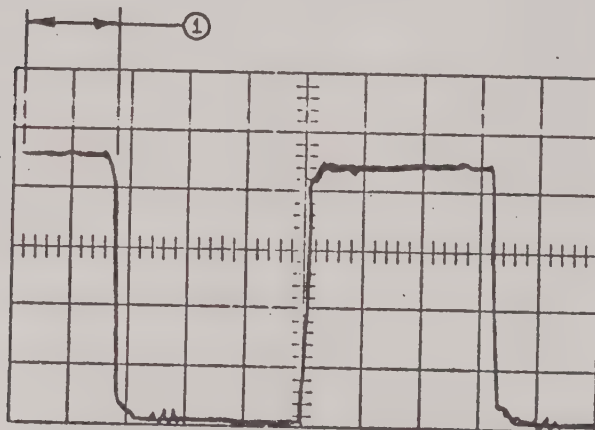

Figure 5-14: Transmit Bit Sync
- o. Adjust the Oscilloscope's triggering controls to obtain the waveform of Figure 5-14. When properly triggered, the Oscilloscope should exhibit a slight delay (not more than 2/3 second) between release of its Erase & Reset button and the actual sweep. Measurement ① should be between 1 and 3 cm (100 and 300 ns) from the beginning of the trace.